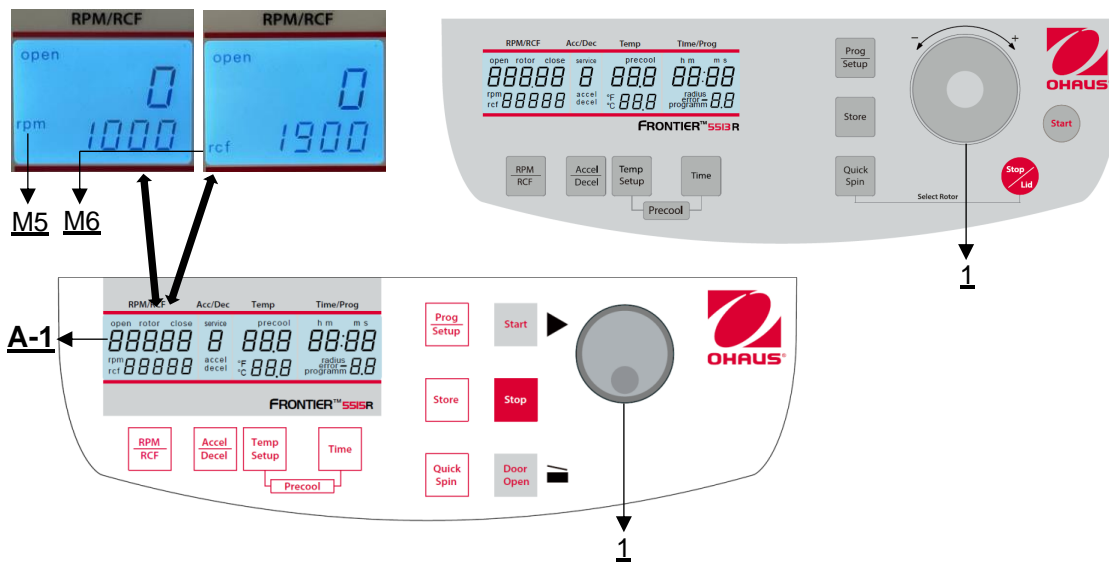

Figure 12
The pre-selection is activated through the key "**RPM | RCF**" (3) (refer to **Figure 12**). By pressing the key once the word "**rpm**" (M5) flashes. By pressing the key twice, the pre-selection of the centrifugal forces can be selected. Then the flashing word "**rcf**" (M6) appears. You can set the desired values with the adjusting knob / touch wheel (1). In the display (A-1) the regulated value is shown permanently, before, during and after the run.